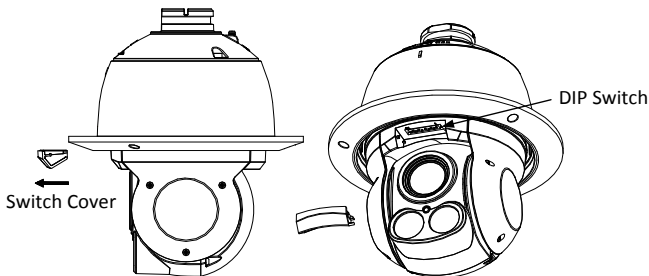

Figure 1-10 DIP Switch of Mini IR Speed Dome
1. Remove the switch cover as shown in Figure 1-10(left).